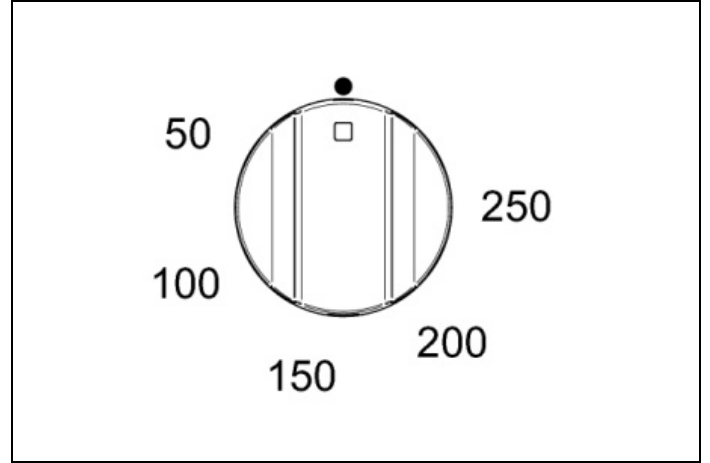
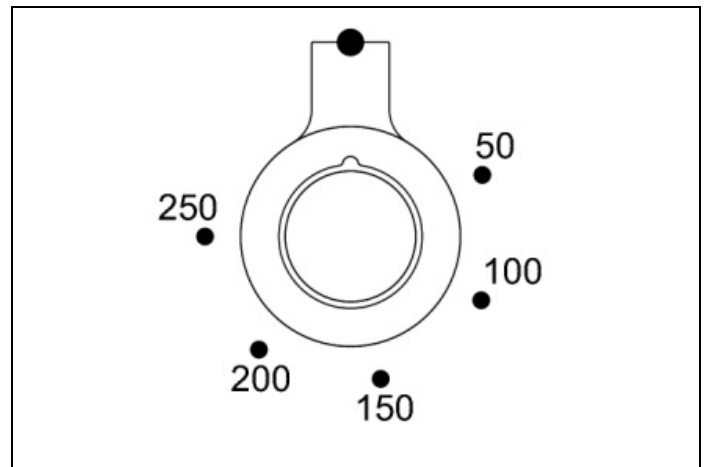
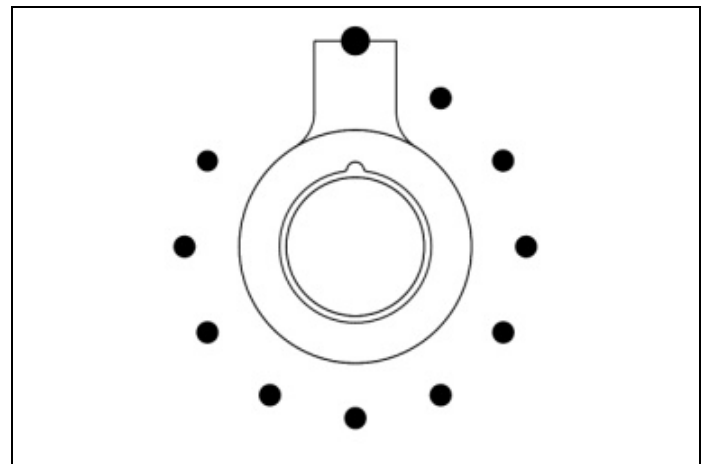

Fig. 25
Fig. 26
Fig. 27
- 2) Turn the temperature knob (Fig. 25 - Fig. 26 and Fig. 27 for the PRO T model only) clockwise to select the temperature required. The orange light turns off once the oven has heated to the chosen temperature and is ready for use. It is normal for this light to switch on and off during cooking, as the heating elements operate to keep the temperature constant. (oven operations is indicated by the programmer display for the PRO T version only).